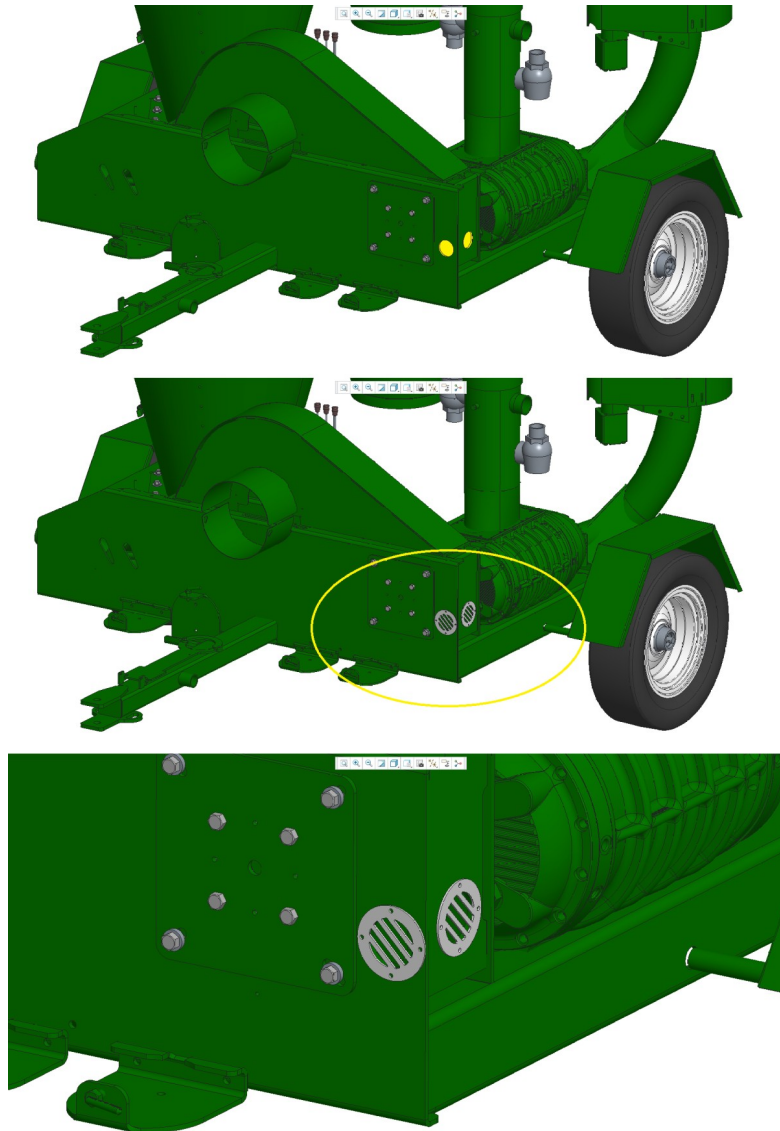

Figure 3: Sight Hole Position and Cover
- c) Figure 3 shows some examples of where to cut the holes, and how install the cover, however each unit is different and it may be valuable to position the opening in another location.